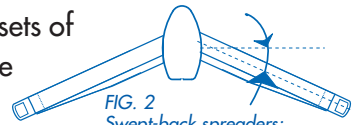

FIG. 2
- with one, two or more sets of spreaders, which may be swept-back (fig.2) or in-line ("in the axis");